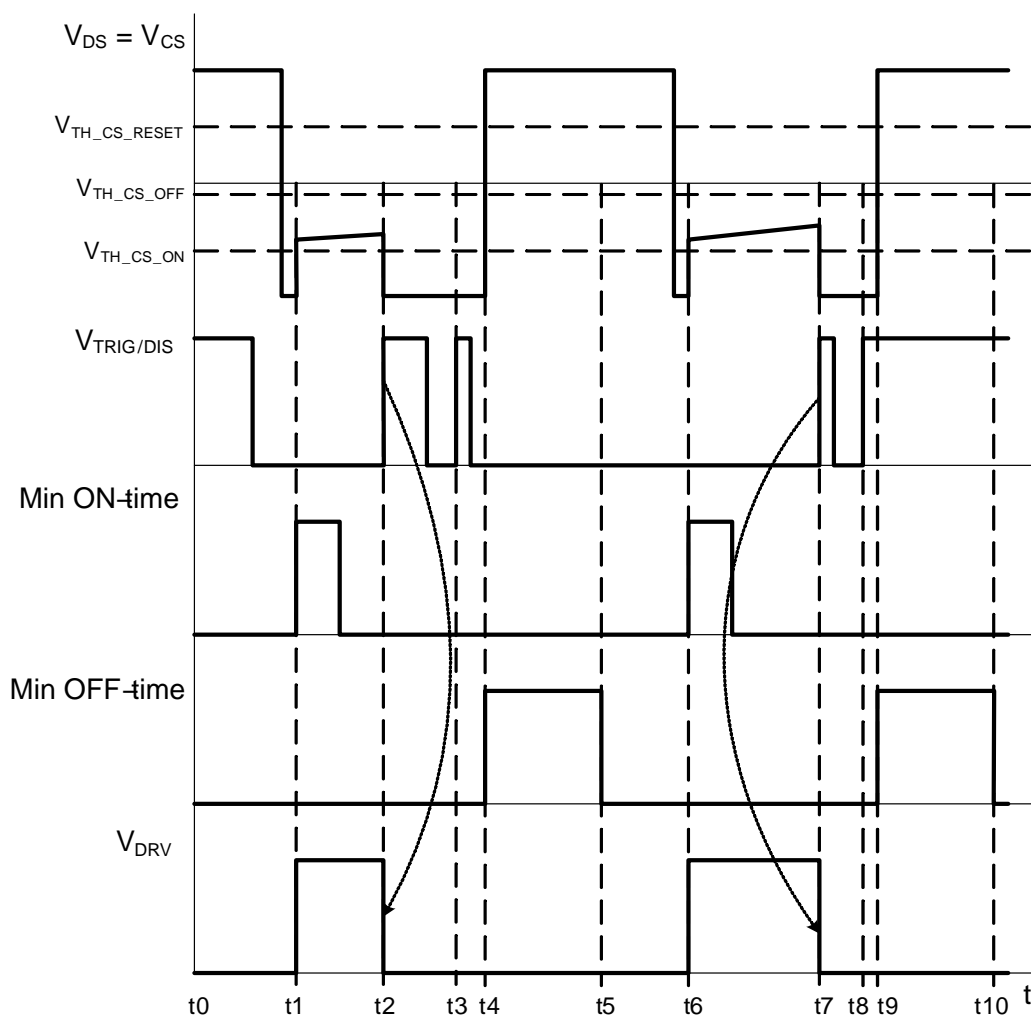

Figure 57. Trigger Input Functionality Waveforms – Two Pulses at One Cycle
Figure 57 shows IC behavior in case the trigger signal features two pulses during one cycle of the VDS (CS) signal. The trigger goes low enables the DRV just before time t1 and DRV turns-on because the VDS voltage drops under $V_{TH_CS_ON}$ threshold voltage. The trigger signal disables driver at time t2. The trigger drops down to LOW level in time t3, but IC waits for complete minimum off-time. Minimum off-time execution is blocked until CS pin